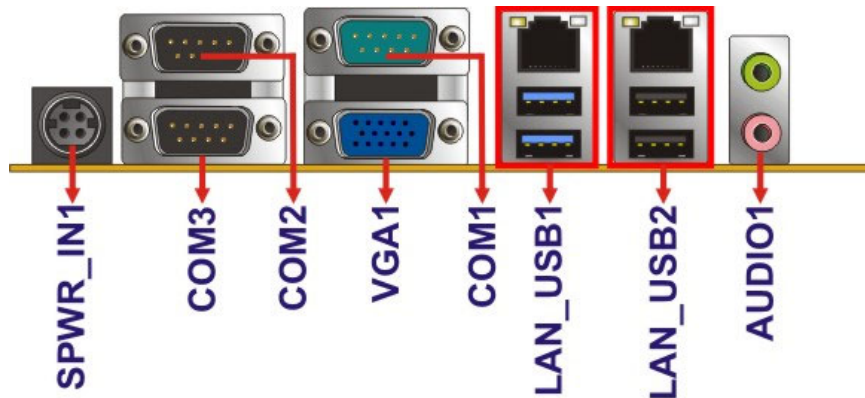

Figure 3-33: External Interface Connectors
- CN Location:** See **Figure 3-33**
CN Location: See **Figure 3-33**